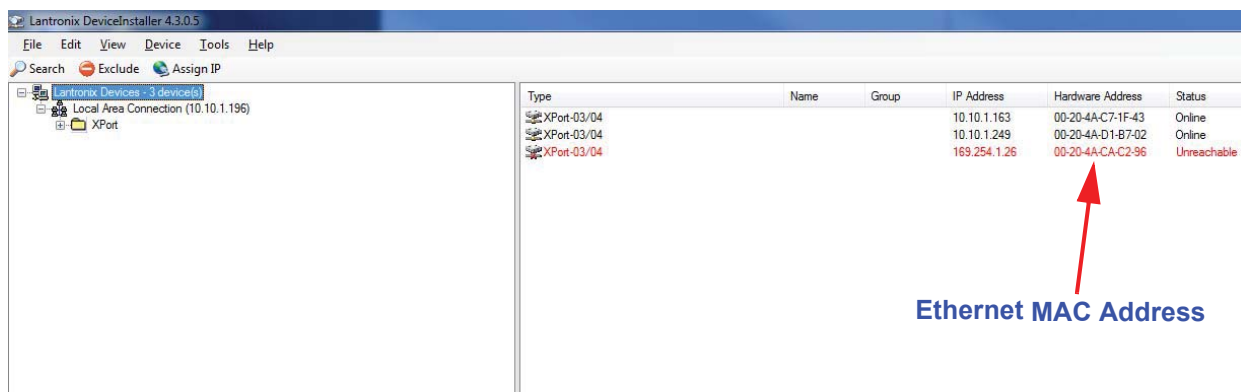

Figure 4-6 Detecting Attached Devices
1. Connect the S1100 to the Ethernet LAN and apply power. Start the Lantronix DeviceInstaller (DI) program on a computer connected to the same LAN. It is suggested the LAN be limited in size to prevent confusion caused by a large number of addresses being discovered. DI will automatically begin searching for attached devices. The **Hardware Address (MAC Address)** for the SOLAIR 1100 will be displayed as shown in Figure 4-6.